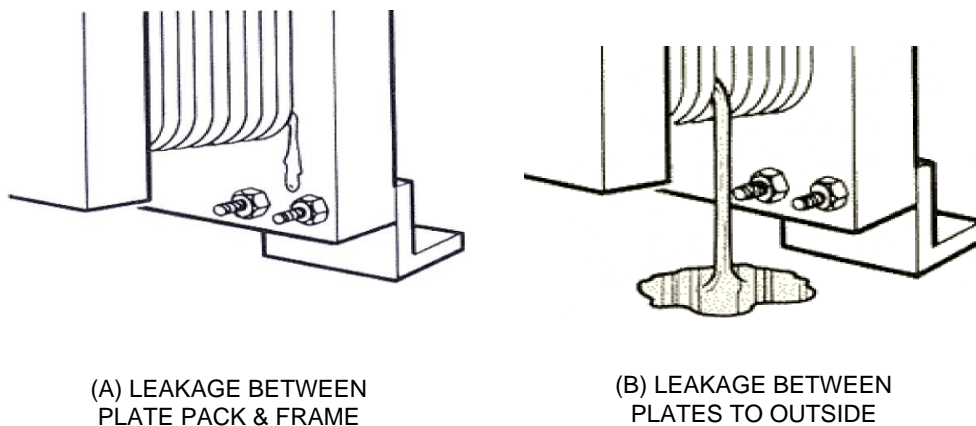

Figure 6-2. Double-Wall Heat Exchanger Leakage Checks - Splash Guard Removed
2. Check for leakage between the Plate Pack and Frame [see Figure 6-2 (A)].
3. Check for leakage between plates to the outside [see Figure 6-2 (B)]